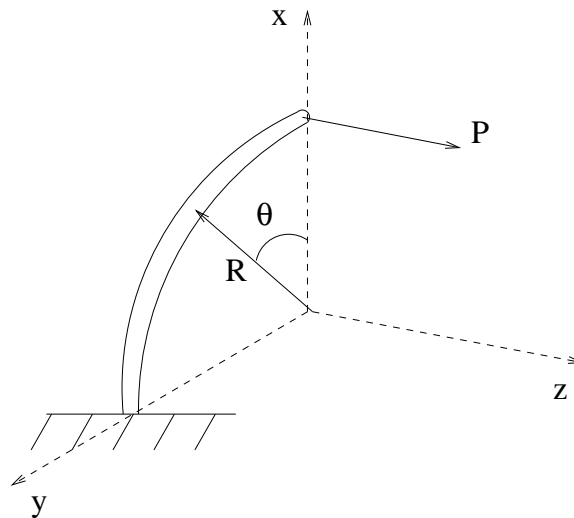

Figure 3: Problem 3.
3. A beam of circular cross section of radius a bent into the shape of a quarter (25) circle of radius R and lying in the x - y plane is subjected to a load $P\mathbf{e}_z$ as shown in Fig. 3. Find M_x , M_y at a section cut at an angle θ from the x -axis (It might help to use the vectorial method.). Using the transformation